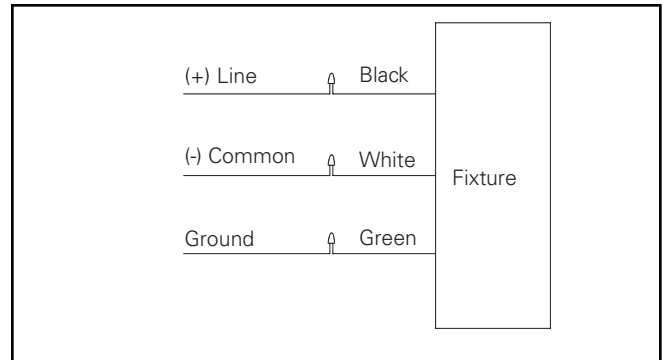

Figure 4.
2. Loosen but do not remove the (2) set screws and (2) center bolts.
4. Refer to wiring diagrams for power connection (Figure 4.)
7. Make wiring connections per wiring diagram and push connections into splice compartment. (Figure 4.)
8. Replace cover plate and tighten (2) cover screws to 15 in.-lbs.